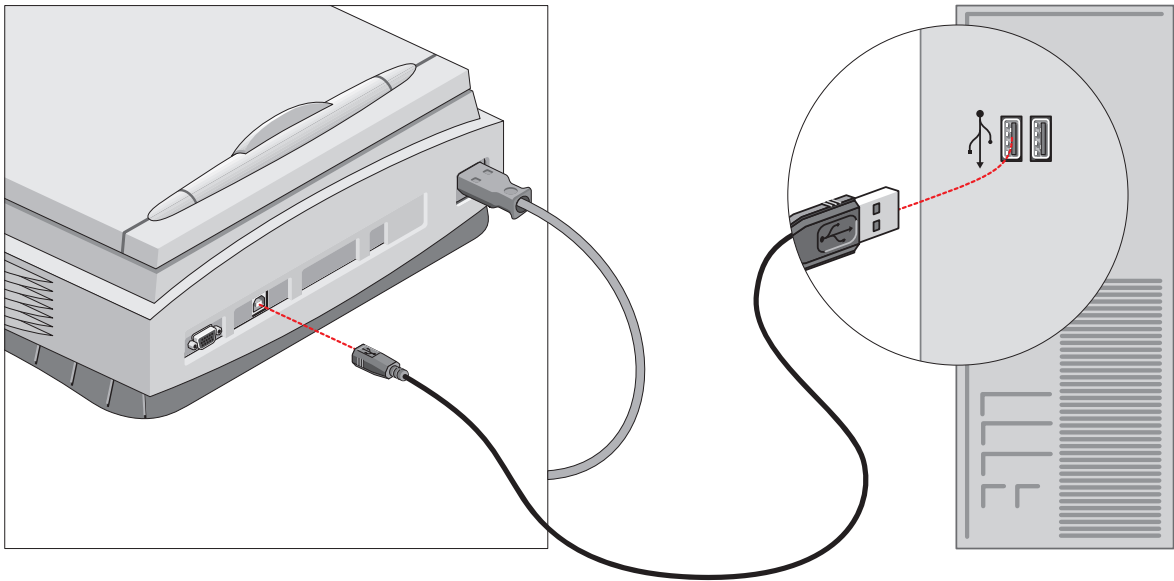

Figure 2
2. Connect one end of your USB cable to the USB port on your scanner. Make sure you connect the correct plug as shown in Figure 2.
3. Connect the other end of your USB cable to a USB port on your computer. Make sure you connect it to the correct port as shown in Figure 2. A USB port is labeled with the USB icon .